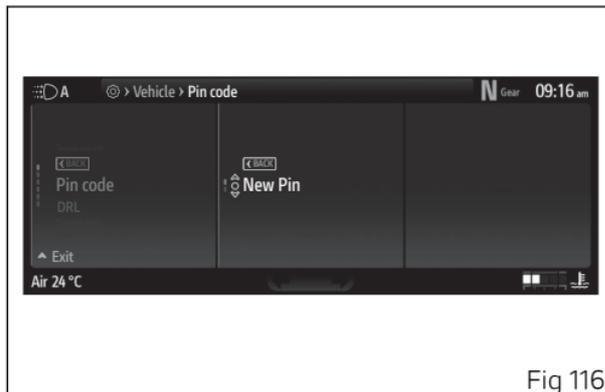

Fig 116
- Select the “New PIN” item (Fig 116) and press ○.